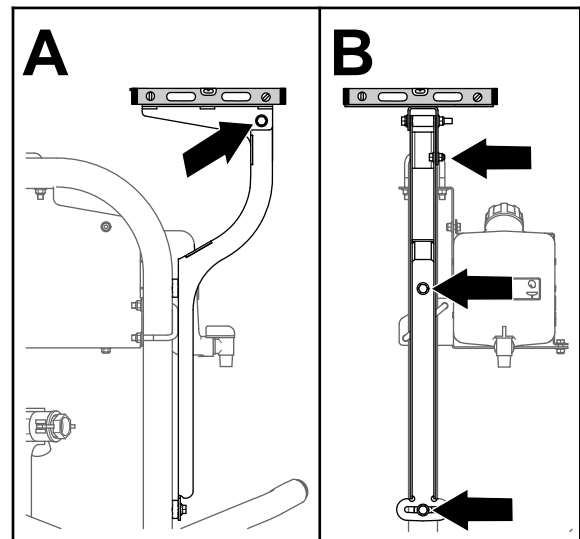

Figure 154
3. Level the receiver plate left to right (Figure 154).
5. Level the receiver plate front to back (Figure 154).